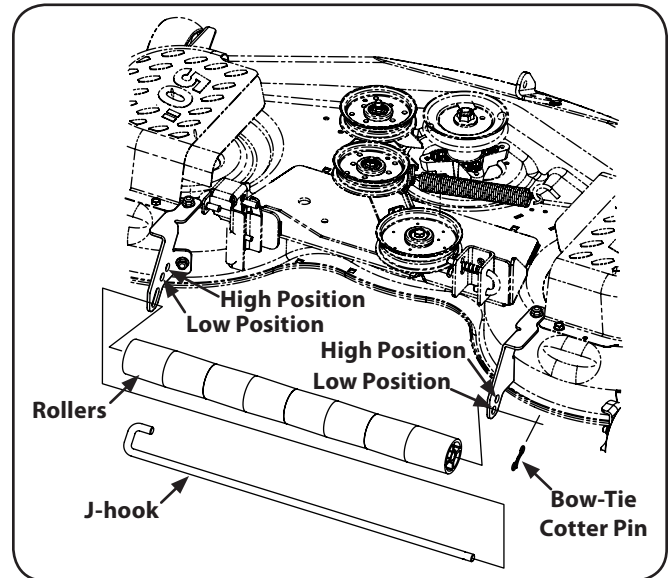

Figure 6-8
1. To change the height of the rollers, remove the bow-tie cotter pin and slide the J-hook out until the end is out of current height setting hole on the right side of the roller bracket. See Figure 6-8.